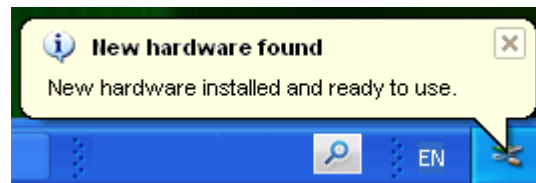

Figure 2:
- A) If drivers have been installed correctly, after a few seconds the system will confirm the new hardware as shown in Figure 2.